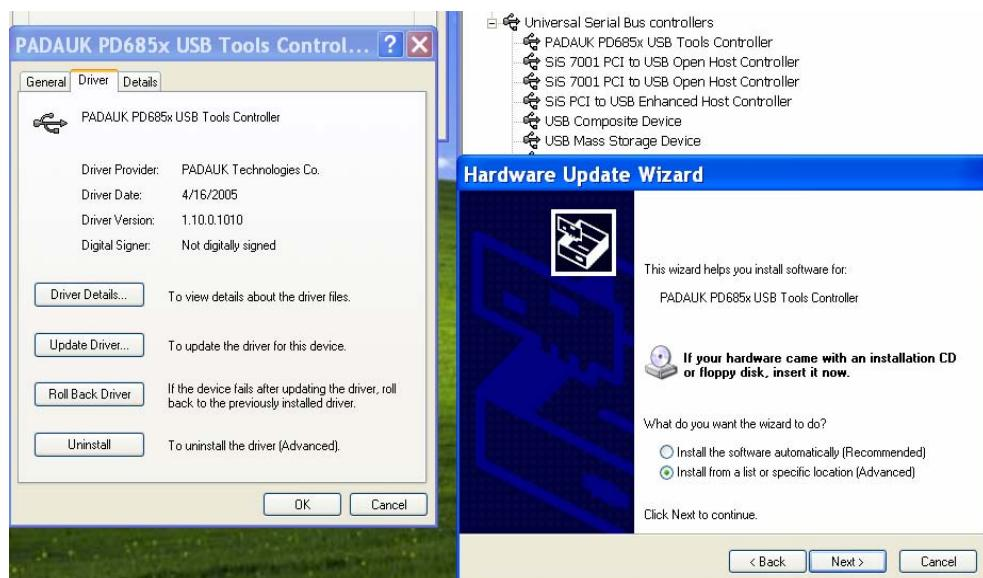

Fig.3-9 : Hardware Update Wizard from PADAUK PD685X USB Tools Controller
Step 4 : Click 【Driver】 , then click 【Update Driver】 in the window of PADAUK PD685X USB Tools Controller ; The window of Hardware Update Wizard will be shown as Fig.3-9 , then select 【Install from a list or specific location】 。